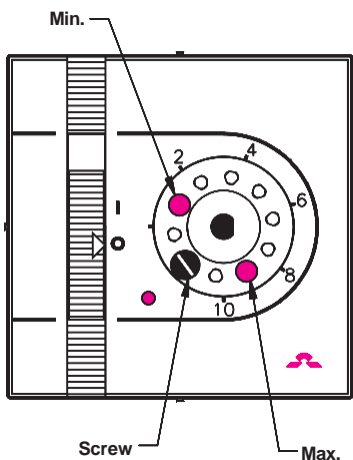

Fig. 2
6. Make sure that the setting button can be turned after remounting of thermostat cover. NB! It is possible to preset a fixed temperature range, see fig. 2.